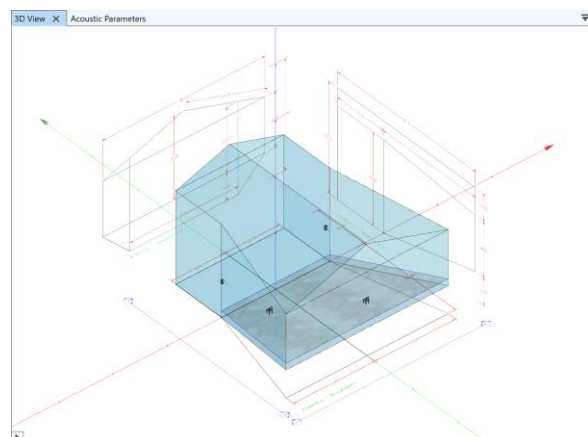

Figure 4.13 Parallel Perspective.
- In **PARALLEL** mode, an orthographic projection is used instead of a central projection. In this mode, objects that are farther away will not appear smaller than objects closer to the viewer (Figure 4.13). This option corresponds to a viewing location at a large distance. It is often useful, especially for drawing or verifying models without perspective distortion.